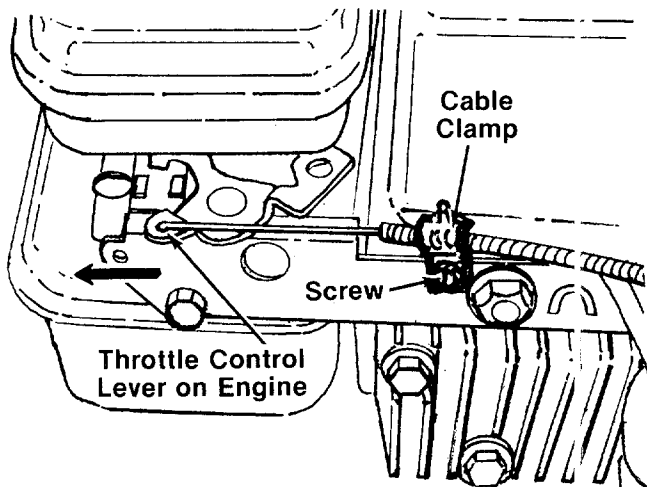

FIGURE 8.
11. Push the throttle control lever on the engine to the full open position (as far toward the outside of the unit as it will go) as shown in figure 8.
13. Remove the screw on the cable clamp shown in figure 8. Slip the control casing under the clamp. With the throttle lever on the engine still in the full open position, replace and tighten the screw to secure the throttle control cable.
1. Loosen, but do not remove, screw securing throttle control wire assembly at engine. See figure 8.